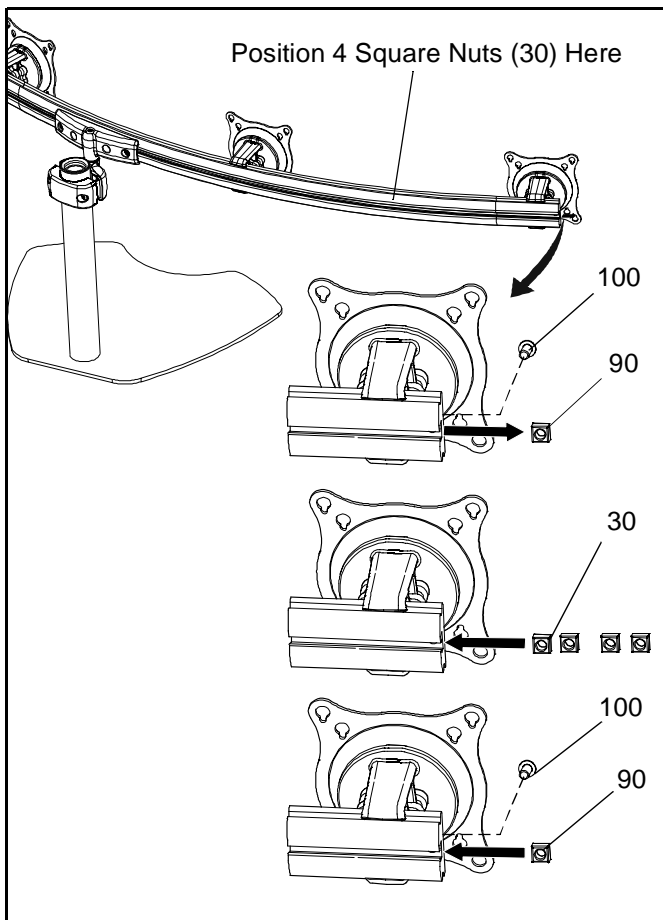

Figure 5: Install Mounting Nuts
6. Loosen and remove end lock retaining screw (100) and set aside for reuse. (see Figure 5)
7. Slide end lock (90) out of array channel and set aside for reuse. (see Figure 5)
8. Install four square nuts (30) into array channel and position at approximate location mounting position.
9. Install end lock (90) into array channel and secure to array channel using retaining screw (100). (see Figure 5)